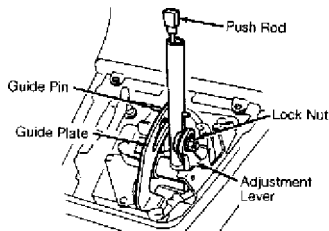

Fig. 2: Gearshift Lever Components ID
1) Disconnect negative battery cable. Remove center console. On all models, remove boot plate. Place gearshift lever in "P" position. Loosen lock nut on side of gearshift lever. See Fig. 2. Move adjustment lever forward to set transmission in "P" position.